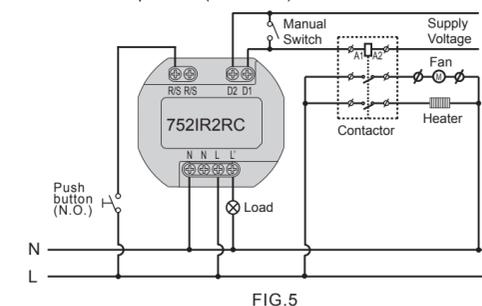
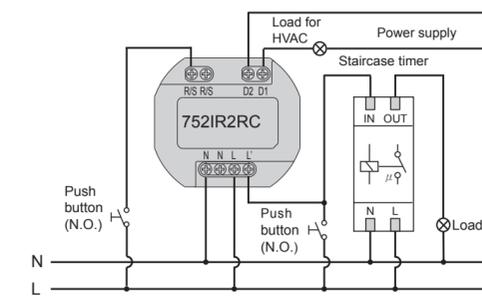
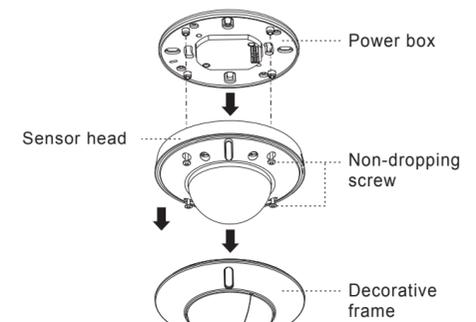
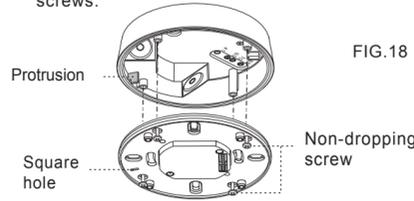

FIG.5
FIG.6
FIG.8
FIG.18
3.3.1 Normal operation (See FIG.5)
3.3.2 Staircase timer switch controlled by one sensor (Time should be set to √_{ts}L, see FIG.6)
3.4.1.1 Take off decorative frame of the sensor, then take the sensor head apart from power box by unscrew its 4pcs non-dropping screws (See FIG.8).
3.4.2.3 Please refer to illustration of FIG.5 - FIG.6 for correct wiring and then screw the flush-mount enclosure tightly.
3.4.3.5 Refer to wiring diagrams for correct wiring connection (See FIG.5 - FIG.6). There is a square hole in the fixing plate, when you put the fixing plate into the enclosure, please fit the filler into the enclosure's protrusion (See FIG.18), then fix the sensor head on the power box following FIG.8 and assemble them with the attached 4pcs non-dropping screws.